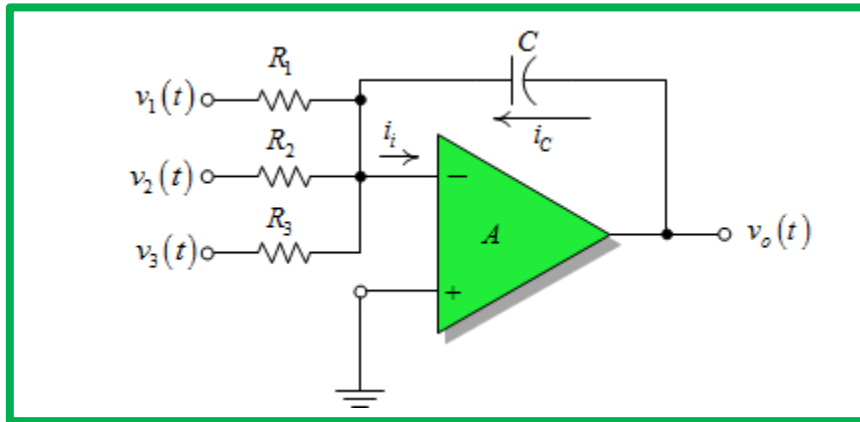

Fig. 12:
- It is **worth noting** that more than one input may be applied to an integrator, as shown in Fig. 12, with the resulting operation given by
- ❑ Consider the ckt in Fig. 12, let the values of the input resistors and feedback capacitor be, $R_1 = 200\text{ k}\Omega$, $R_2 = 100\text{ k}\Omega$, $R_3 = 1\text{ M}\Omega$, and $C = 1\text{ }\mu\text{F}$. Find the output voltage when all inputs are unit step voltages, i.e., 1V.